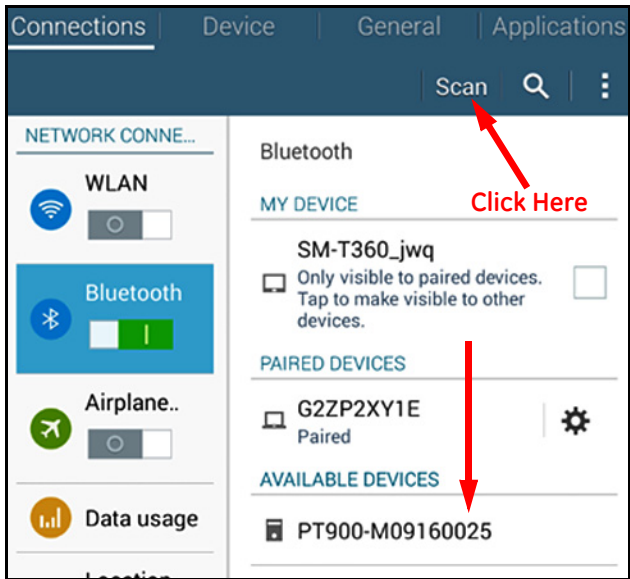

Figure 7: Available Devices List
3. After the APP finishes loading, the default *Transmitter* list is displayed. During initial installation, this list is empty. To connect to a new PT900 transmitter, click **SCAN** (see the red arrow in *Figure 7* on page 10) and the APP will search for all available transmitters via Bluetooth.
4. After the scan has been completed, any new transmitters which were found are listed in the **AVAILABLE DEVICES** section of the tablet screen (see the red arrow in *Figure 7* on page 10). Click on your transmitter to pair it with the tablet.